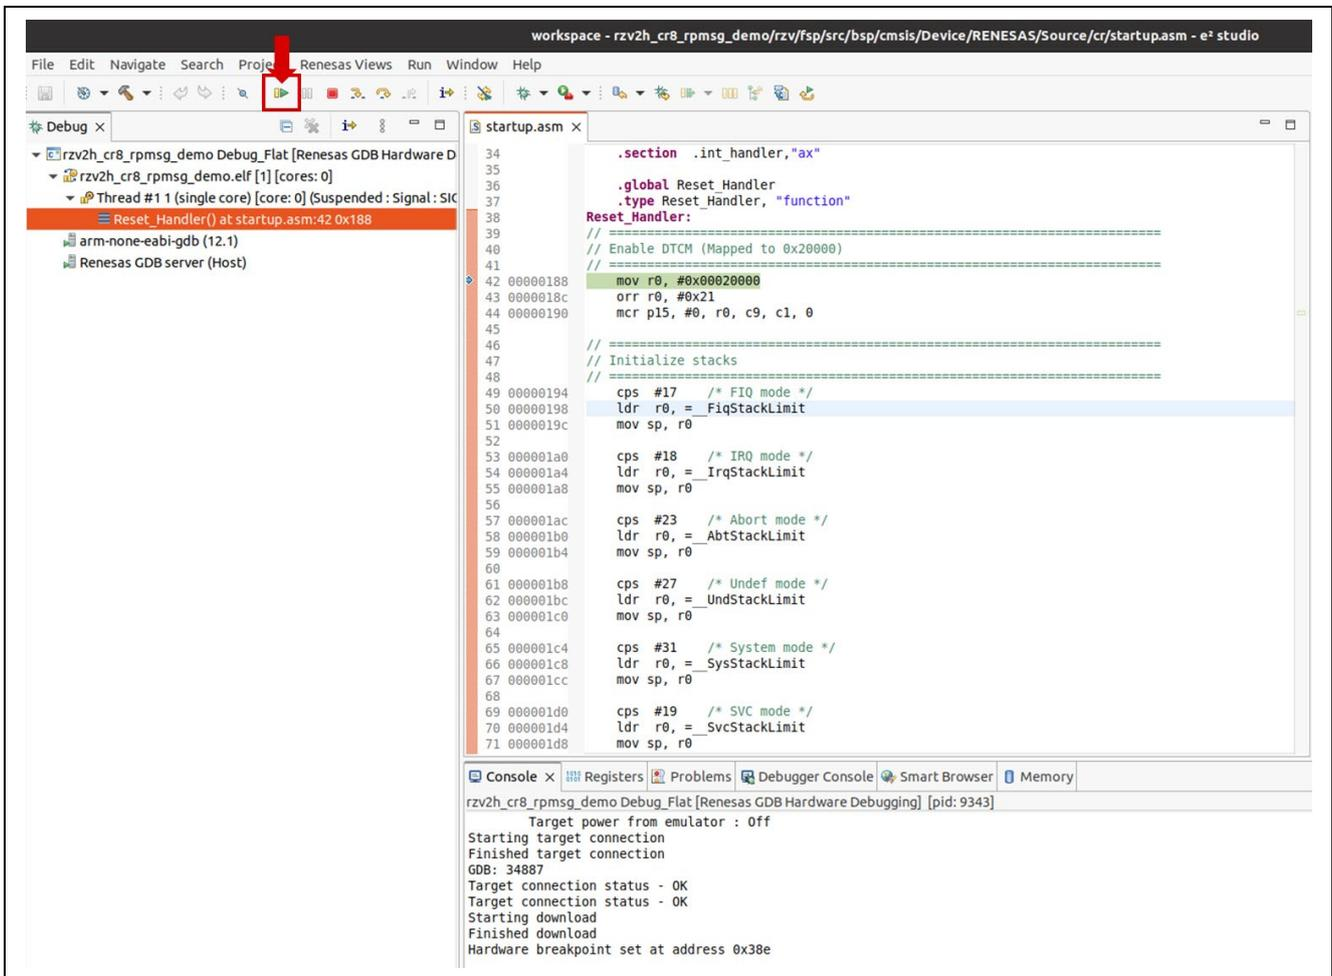

Figure 5-7. How to start to debug Sample Program (1)
- When the debug perspective is opened, Program Counter (PC) should be located at the top of Warm_Reset_S and Reset Handler for CM33 and CR8 e2 studio project respectively. Then, you need to press the button in as shown in Figure 5-7.